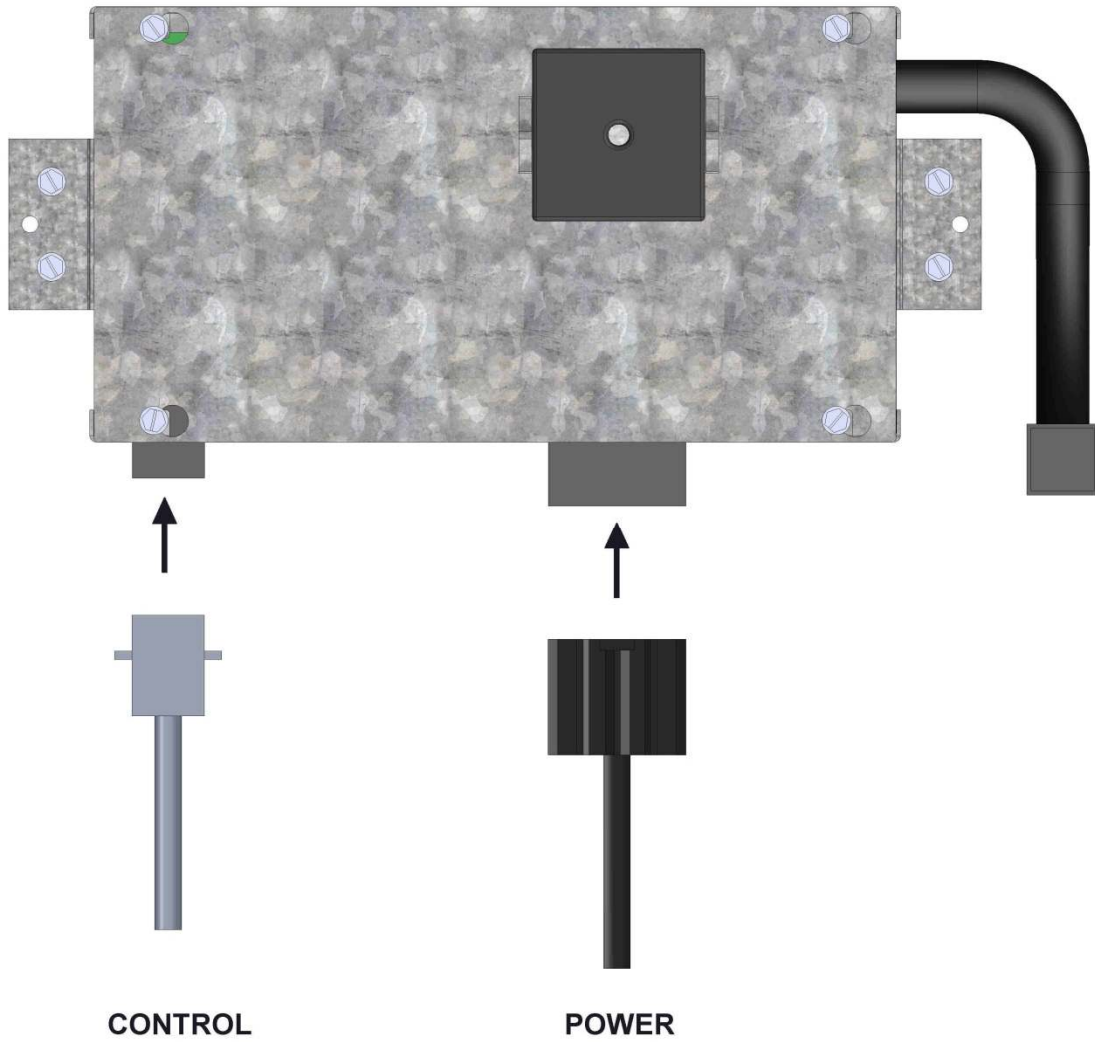

Figure 5 – Legacy Kit Cables
3. Connect the Chassis POWER Cable (Black – 4 pin) and Chassis CONTROL Cable (White – 9 pin) from the new Omega Chassis into the Legacy Kit (**Figure 5**).